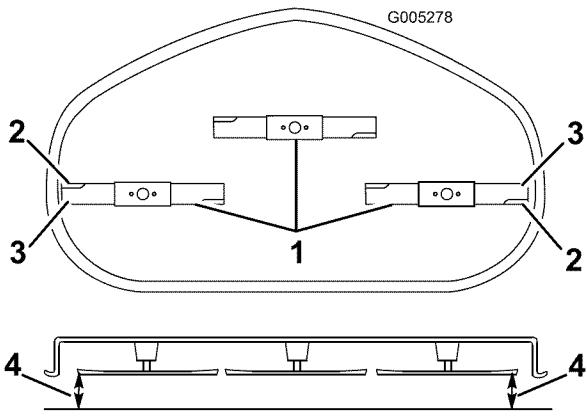

Figure 41
5. Carefully rotate the blade(s) side to side (Figure 41).